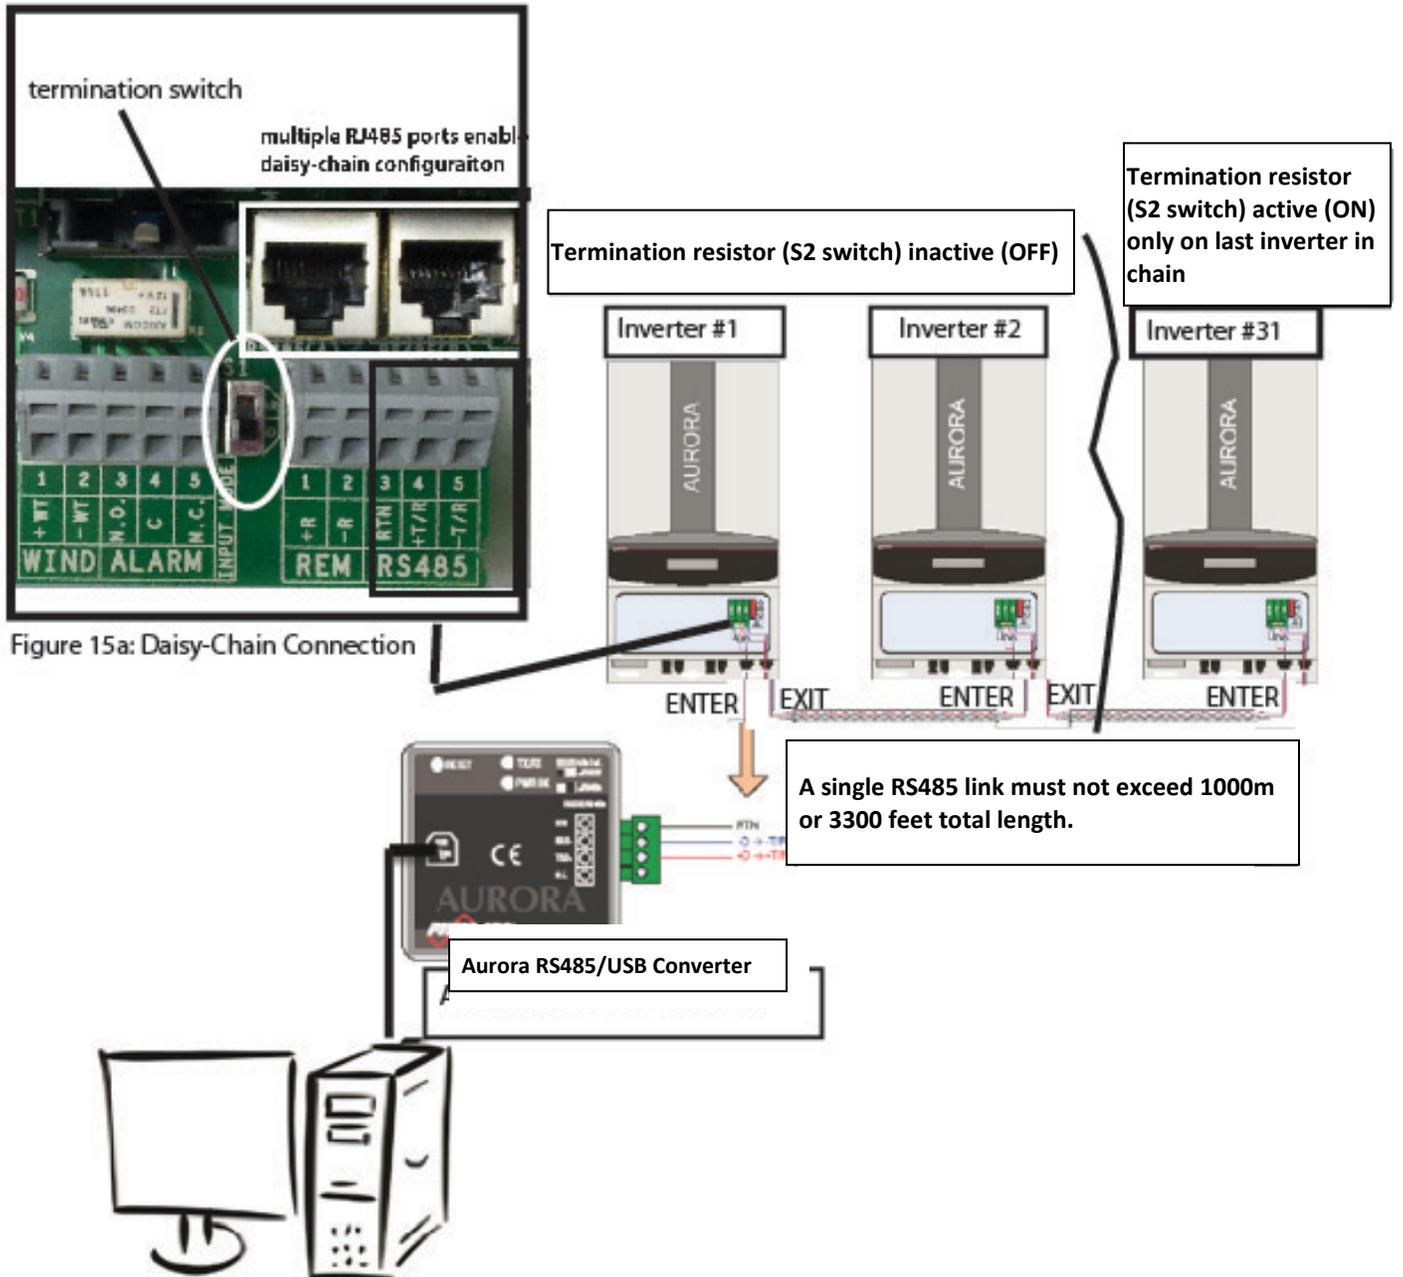

Figure 15a: Daisy-Chain Connection
The RS-485 terminal block or RJ45 connectors can be used to connect a single Aurora Inverter. This terminal block also enables a multi-unit wiring configuration called "daisy-chain configuration". See shown in Figure 15a and 15b
STEP 2: Locate the S2 switch. See Figure 15a. Push the switch **up** into the **OFF** position for every inverter in the chain except for the last inverter. The last inverter needs to have the S2 switch pushed **down** into the **ON** position.